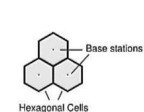

Fig. Q.41.1 Cells
• The typical cell covers only several square kilometers and contains its own receiver and low-power transmitter. As shown in the Fig. Q.41.1, the cells are hexagons with the repeater and base station at the center.